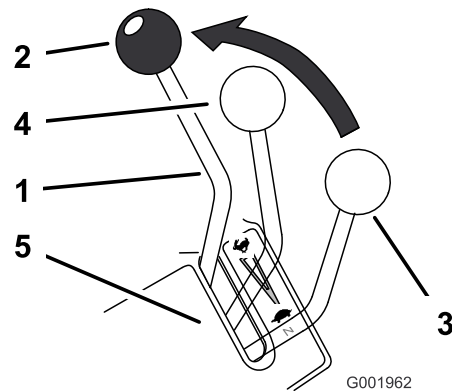

Figure 43
3. Move the speed control lever (located on the console) to the full forward position (Figure 43).
2. Move the speed control lever to the neutral position (Figure 43).